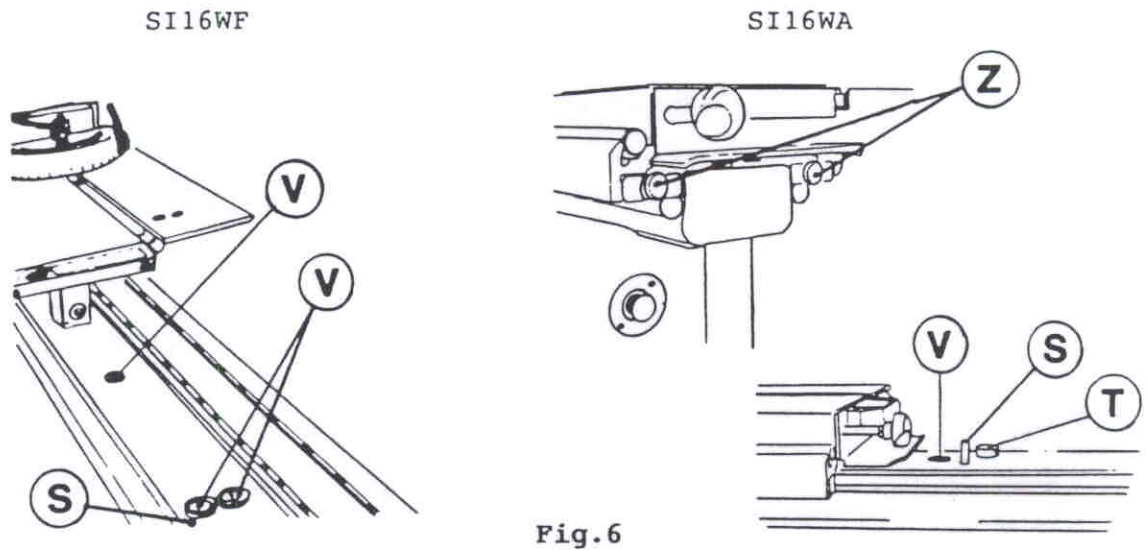

Fig.6
- 1) Insert pins (S fig.6)
- 2) Tighten screws (V fig.6) for SI16WA and SI16SW models, close the hole with plug (T)
- 3) With SI16WA and SI16SW models remove plugs (Z)